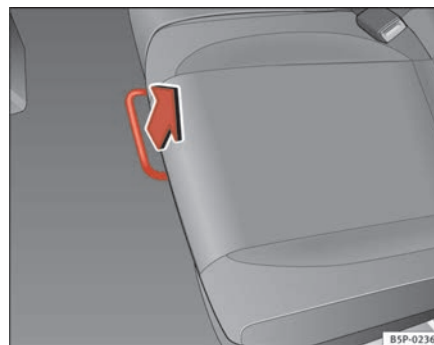

Fig. 96 For unlocking the rear seat
- In the seated position, unlock the lever in the direction of the arrow ⇒ page 132, fig. 96.